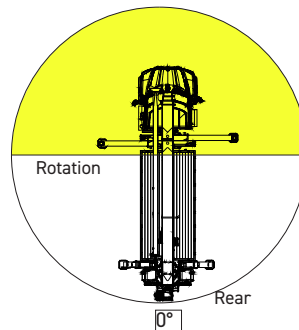

Fig 1
1. Set the boom in the boom rest and align to the zero location as shown in Fig. 1. Record the current swing angle displayed on the LMI display.
8. Set the boom in the boom rest and align to the zero location as shown in Fig. 1. Record the CURRENT SWING ANGLE displayed on the LMI display.